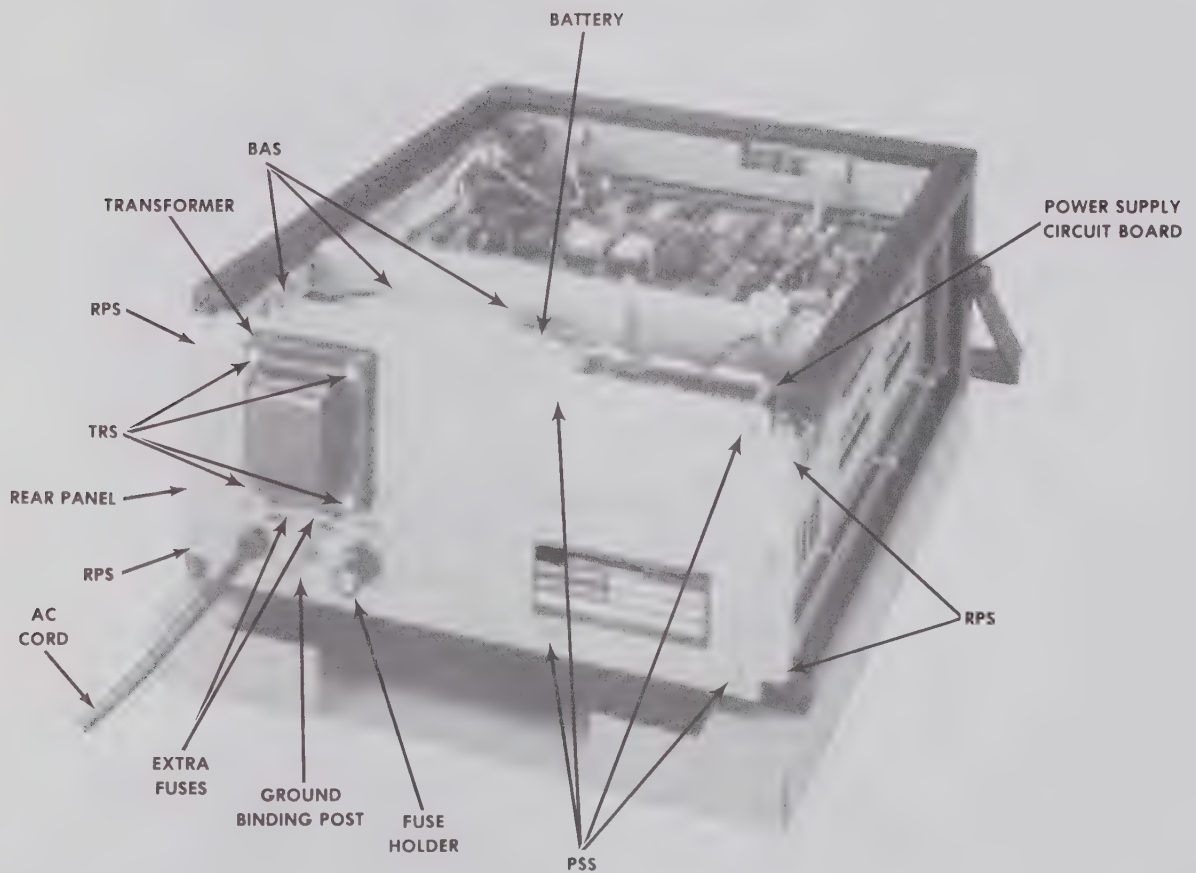
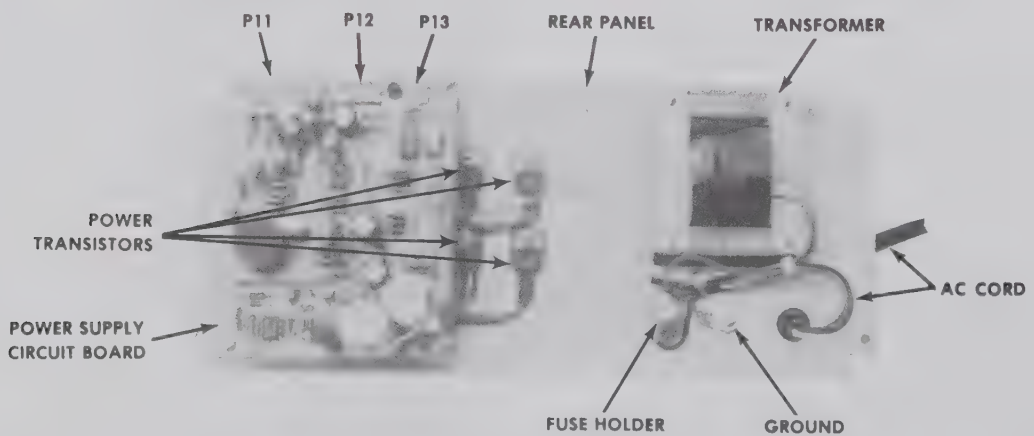

Figure 2-6 Power Supply (Outside Rear Panel View)
Figure 2-7 Inside Rear Panel Detail
12. Remove the four flathead screws (RPS) located at the corners of the outside rear chassis panel (Figure 2-6) and lift off the rear panel.
13. Power Supply Circuit Board. If access to the power transistors is needed, the power supply circuit board may be moved out of the way by removing the four panhead screws (PSS) on the exterior side of the rear panel (Figure 2-6).
14. Transformer. To remove the transformer from the rear panel, first disconnect the three wires going from the transformer to E1, E2, and E3 on the right edge of the power supply board (Figure 2-7).
15. Then remove the four panhead screws (TRS) holding the transformer to the rear panel (Figure 2-6).
2. Transformer. To reinstall the transformer, refasten it with the original four flathead screws (TRS) coming from the outside of the rear panel (Figure 2-6). Then reconnect the transformer wire connectors to the three pins on the right edge of the power supply circuit board (Figure 2-7).
3. Power Supply Circuit Board. To reinstall the power supply board, use the four original panhead screws (PSS) to refasten it to the inside rear panel (Figure 2-6).
4. Rear Panel. To reinstall the rear panel, hold the board against the inside rear panel and reinsert the four original flathead screws (RPS) as illustrated in Figure 2-6.